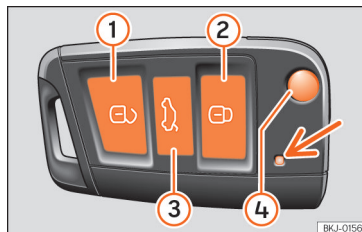

Fig. 131 Assignment of buttons on the remote control key.
By using button 4 »» Fig. 131 on the control, the key shaft is released.
Unlocking the vehicle »» Fig. 131 1.
Locking the vehicle  » **Fig. 131 ②**.
Unlocking the rear lid. Press button  » **Fig. 131 ③** until all the turn signals on the vehicle flash briefly. When the unlocking button  ③ is pressed, you have 2 minutes to open the door. Once this time has passed, it will lock again.
Moreover, the battery indicator on the key » **Fig. 131** (arrow), will flash.
- Press button ② »» Fig. 131 on the remote control.
- Press button ① »» Fig. 131 on the remote control.
- Press the button »» Fig. 131 on the remote control to unlock all the doors and the rear lid.
- Press the button »» Fig. 131 on the remote control to lock all doors and the rear lid or turn the key in the door to lock all doors and the rear lid.